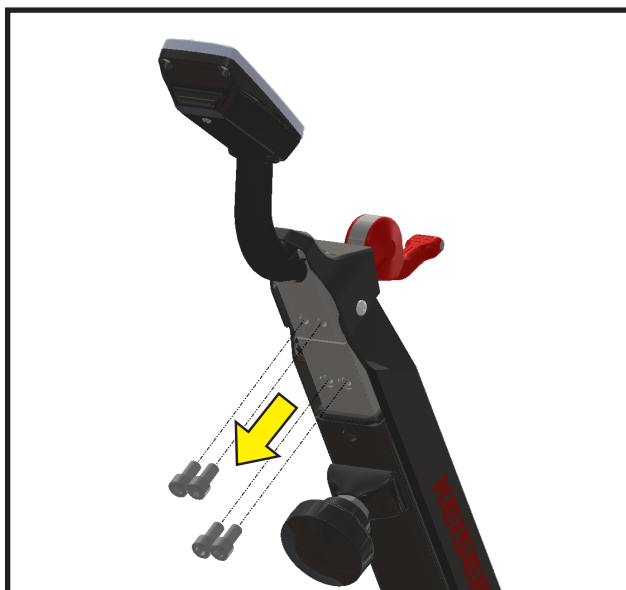

Figure 15. Remove the 8 mm Screws From the Handlebar
4. Remove the four 8 mm Allen screws from the handlebar tube, located below the computer mount, refer to Figure 15.